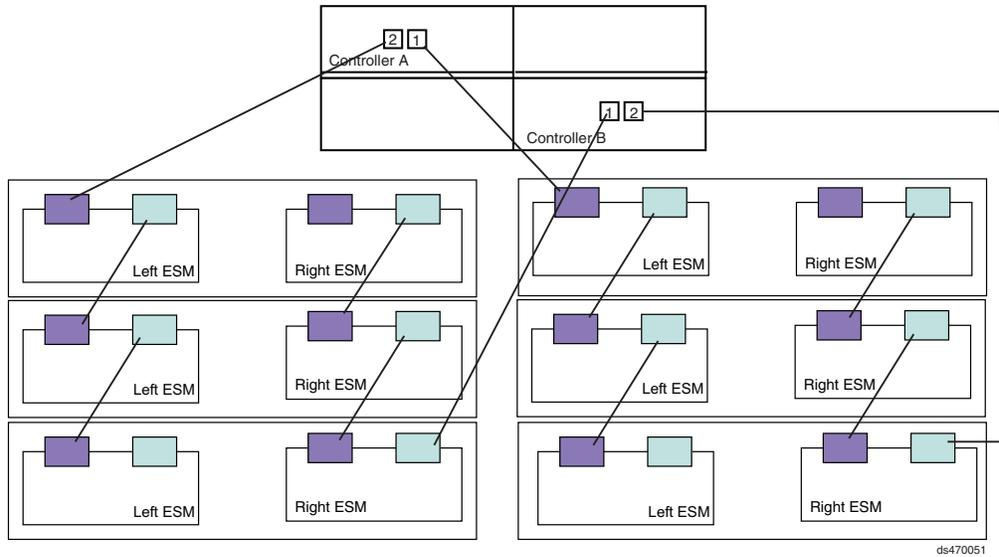

Figure 55. One DS4700 Express and up to six storage expansion enclosure — Recommended cabling
If you are cabling one DS4700 Express Storage Subsystem and up to six storage expansion enclosures, Figure 55 on page 74 shows the recommended cabling topology.
8. When connecting six storage expansion enclosures to a DS4700 Express, use all ports in both drive channels. See Figure 55 on page 74 for the recommended cabling topology.